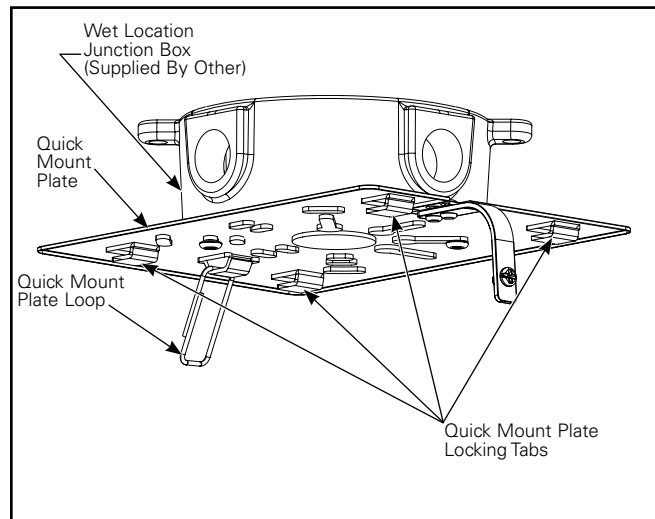

Figure 2.
2. Slide the quick mount plate towards where the mounting screw was removed until the quick mount plate detaches from the housing. Fully detach the housing from the plate by unhooking the quick mount plate loop from the housing (Figure 2).
3. Attach the mounting plate to the junction box (Figure 2).